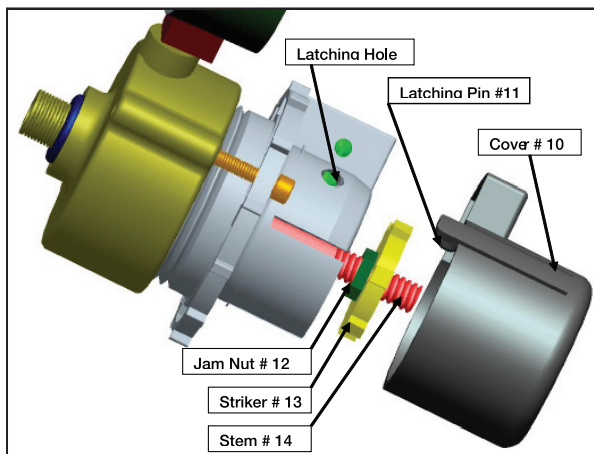

Figure 8. Adjustability
- 7.1 Turn the pump "off" and remove the valve Cover (item # 10). Use a flat screwdriver to release latching pin (item # 11). Pull the cover out. (See Figure 8)